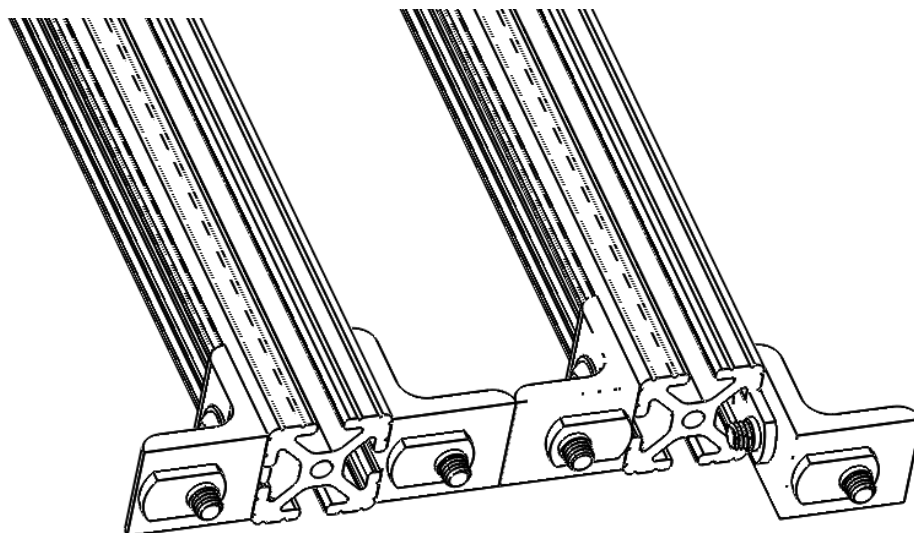

Fig. 3.11: Four corner brackets (#REGC) with end-feed fastener on 4 ft beam (#HJXQ)
- ☐ Insert the corner brackets into the slots on the left and right side the two **4 feet** beams (#HJXQ), as shown in Fig. 3.11. Don't tighten the screw with the end-feed fastener completely in order to allow the corner brackets slide in the groove.
- ❑ Repeat the previous step to place corner brackets on another beam (#HJXQ), as shown in Fig. 3.11.